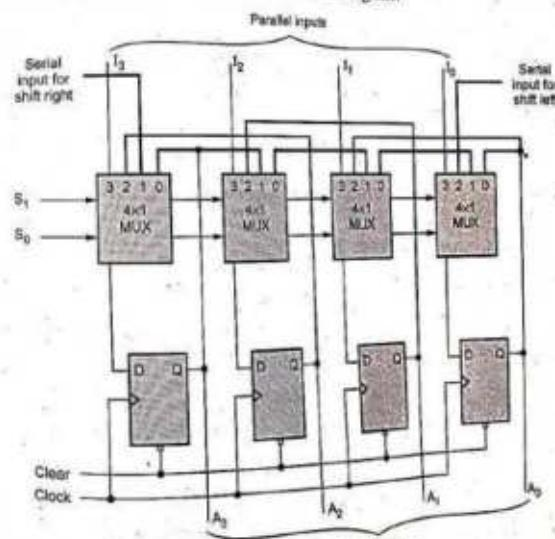

Fig. 5.8.15 4-bit universal shift register
- The Fig. 5.8.15 shows the 4-bit universal shift register.